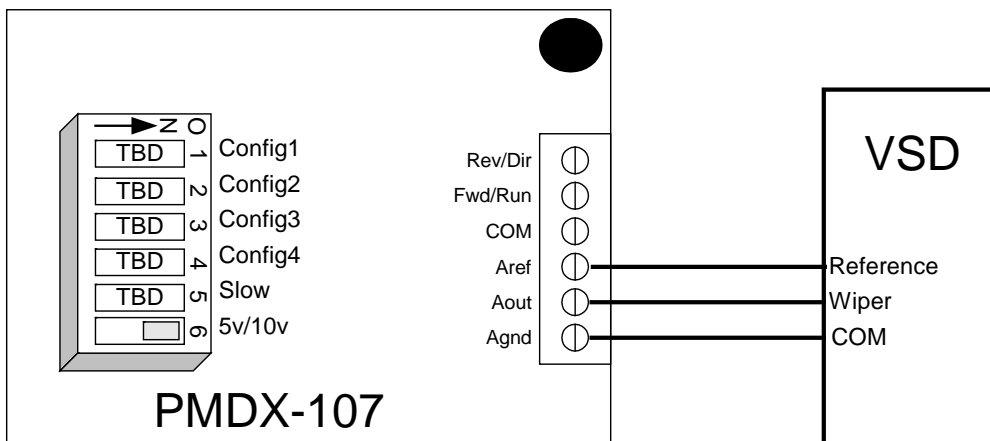

Figure 3 - Example Ratiometric VSD Connections & DIP Switch Settings
- Potentiometer (ratiometric) The VSD expects to be connected to an external potentiometer, or requires a "max speed" voltage that is neither +10V nor +5V. In this case, the VSD provides the analog reference voltage to the PMDX-107's analog output circuit. See Figure 3 for an example of the DIP switch settings and VSD connections for this configuration. The VSD must not apply greater than +15 volts to the PMDX-107 reference input at J1 pin 3 (referenced to J1 pin 1).